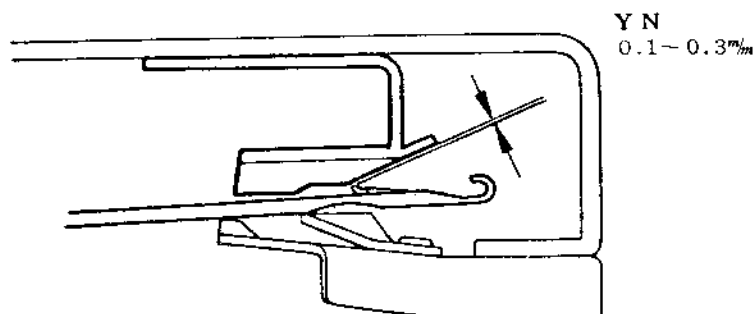

Fig. 104
4. Adjust the P.N. clearance to within 0.0-0.3 m/m (to the extent that the edge of the Fabric Presser touches the lower part of the needles gently), and at the same time there must be a clearance between the Yarn Feeder and needles (as shown in Fig. 104).